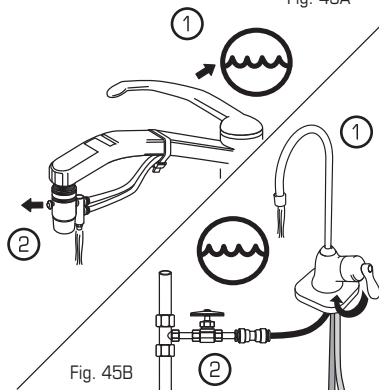

Fig. 45B
- b) For the Auxiliary Faucet: With the Auxiliary Faucet handle still in the open position ①, **open** the supply shut-off valve ② (Fig. 45B).